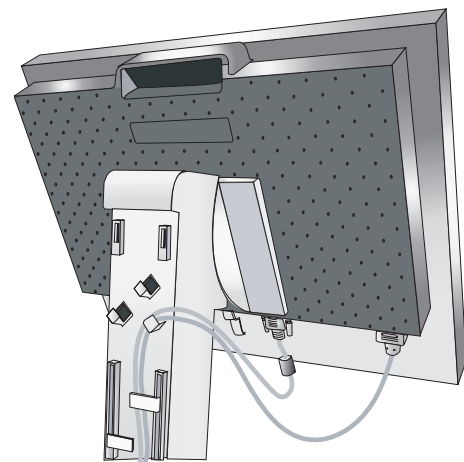
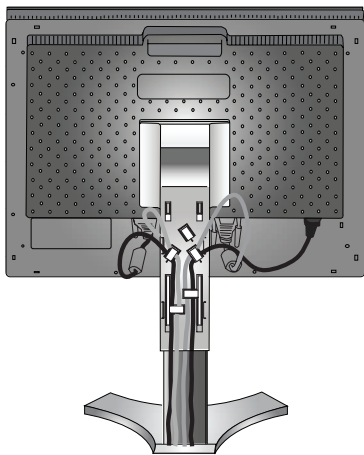
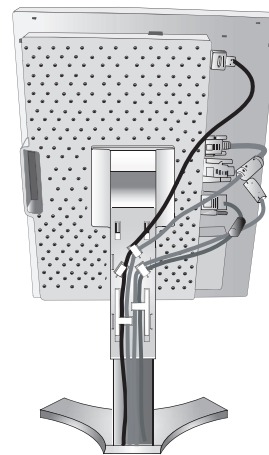

Figure C.2
Figure C.3
Figure C.4
5. To keep the cables neatly organized, place them into the cable management system that is built into the stand. Place the D-Sub cable (not included) and the power cable into the specific hooks as indicated (**Figure C.2**). Place the DVI cable and the 15-pin mini D-Sub to DVI-A cable into the hooks as indicated (**Figure C.3**). When using the monitor in Portrait mode, place the DVI cable and the 15-pin mini D-Sub to DVI-A cable into the hooks as indicated (**Figure C.4**).
6. Make sure all cables are resting flat against the stand (**Figure C.3**). Please check Tilt, Rise and Lower monitor screen and screen rotation when you manage cables.